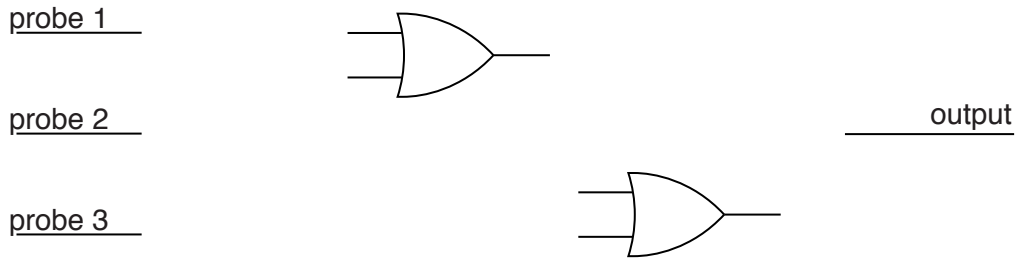

Fig. 17 [2]
- (iii) Three conductive probes could be used with their outputs combined using logic. Connect the logic gates in Fig. 17 so that the combined output will produce a high signal when at least one high signal is present at the inputs.